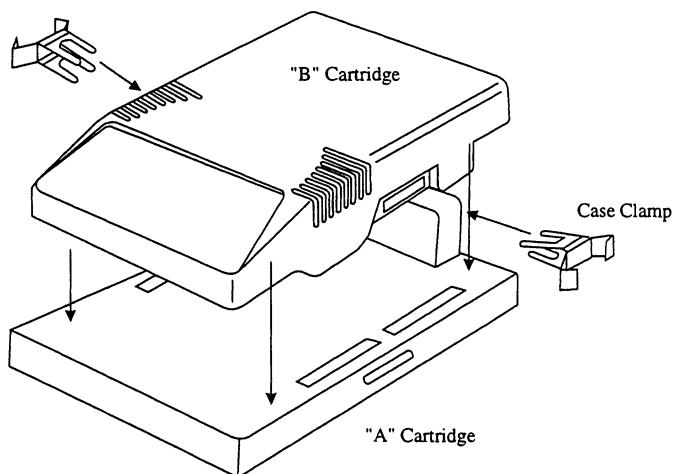

Figure 10 : Case Clamp Installation
2. To remove the existing "B" cartridge from the "A" cartridge, pull the old case clamps apart (see Figure 10). Carefully remove the old "B" cartridge and install the new "B" cartridge. Re-install the case clamps.